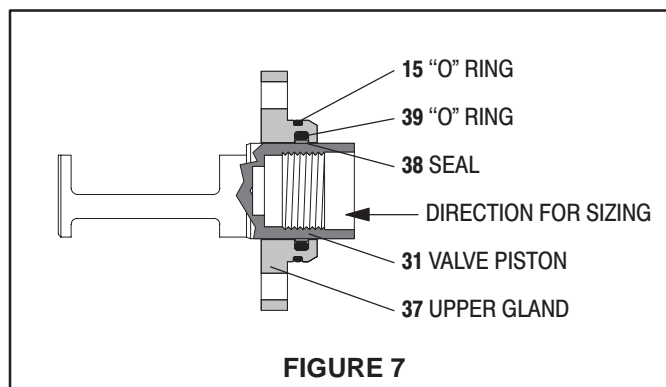

FIGURE 7
16. Remove the (37) upper gland.
17. Remove the (38) seal and (39 and 15) "O" rings from the (37) upper gland (see figure 7).
- Grease and carefully push the (31) valve piston into the (37) upper gland to size the (38) seal, then remove (see figure 7 below).